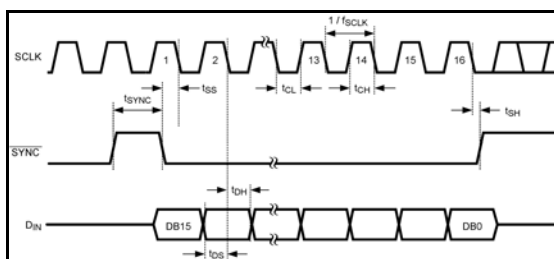

Figure 2: Digital Input Timing Diagram
5. Create the digital waveforms seen in *Figure 2* with your Logic Generator. Ensure that SCLK does not exceed 40MHz. Refer to the DAC128S085 Datasheet for further details.
In *Stand-Alone Mode*, the serial interface must be driven by an external device. The three-wire interface (SCLK, SYNC, D_{IN}) is compatible with SPI, QSPI and MICROWIRE, as well as most DSPs. See the Timing Diagram (Figure 2) for information on a write sequence.